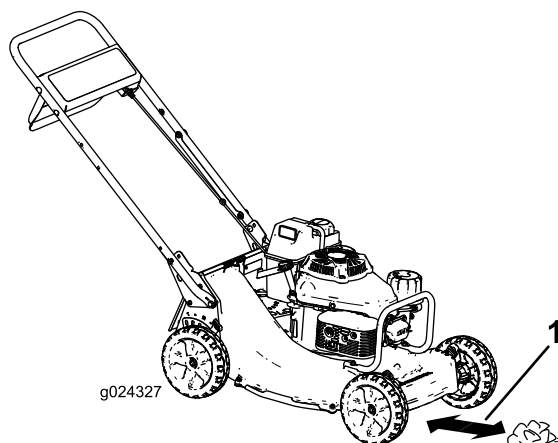

Figure 18
- Place the newspaper ball about 13 cm (5 inches) in front of the machine (Figure 18).